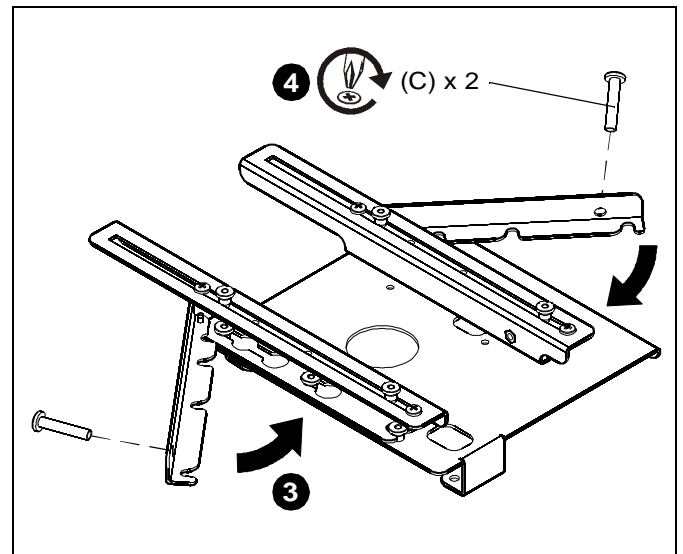

Figure 4
4. Secure bracket arms with one 10-32 x 1" Phillips machine screw (C) on outside of each LSB101 bracket. (See Figure 4)